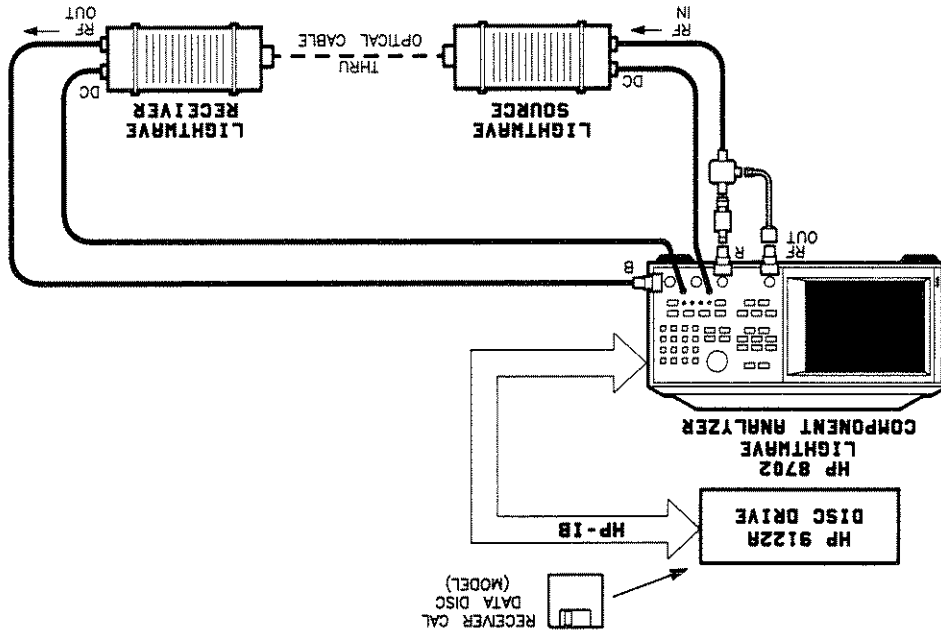

Figure 7-6. O/E Transducer Measurement Configuration
- Connect the system as shown above in Figure 7-6 with the thru cable from the Interconnect Cable Kit or your own short cable with the appropriate connector/adapters. Setup the stimulus parameters for the measurement.